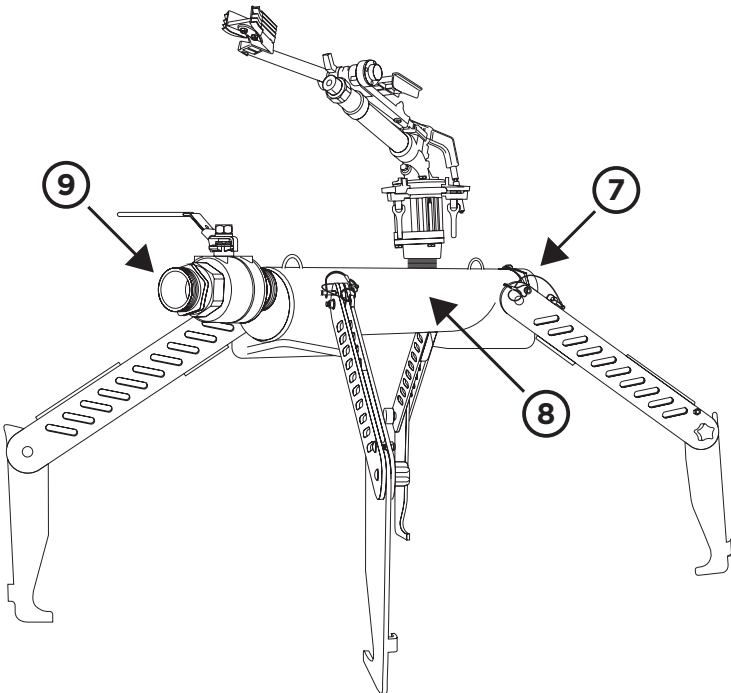

Figure 5.
- Attach fire hose to a water source and the other end of the fire hose to the threaded inlet/outlet port (7) on the backside of the cannon manifold (8), (the one opposite the valve end (9)), *Figure 5*.